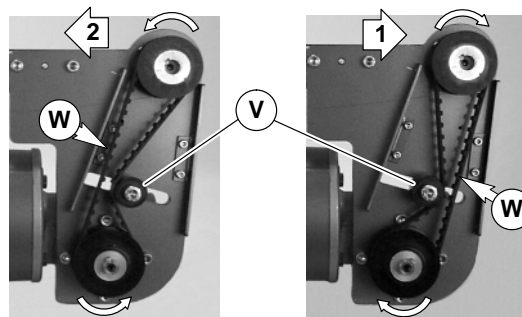

Figure 10
8. Depending on conveyor belt travel (direction 1 or 2), locate timing belt tensioner (V of Figure 10) as shown. Tension timing belt to obtain 0.125" (3 mm) deflection for 1.0 lb (456 grams) of force at timing belt mid-point (W). Tighten tensioner screw to 103 in-lb (12 Nm).
3. Depending on conveyor belt travel (direction 1 or 2), locate timing belt tensioner (V of Figure 10) as shown. Tension timing belt to obtain 0.125" (3 mm) deflection for 1.0 lb (456 grams) of force at timing belt mid-point (W). Tighten tensioner screw to 103 in-lb (12 Nm).
5. Depending on conveyor belt travel (direction 1 or 2), locate timing belt tensioner (V of Figure 10) as shown. Tension timing belt to obtain 0.125" (3 mm) deflection for 1.0 lb (456 grams) of force at timing belt mid-point (W). Tighten tensioner screw to 103 in-lb (12 Nm).